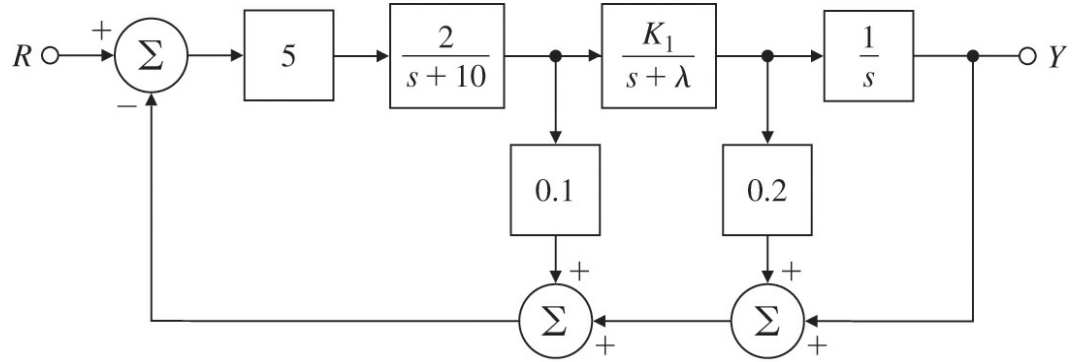

Fig. 5.55 Control system for Problem 5.16
16. For the system given in Fig. 5.55